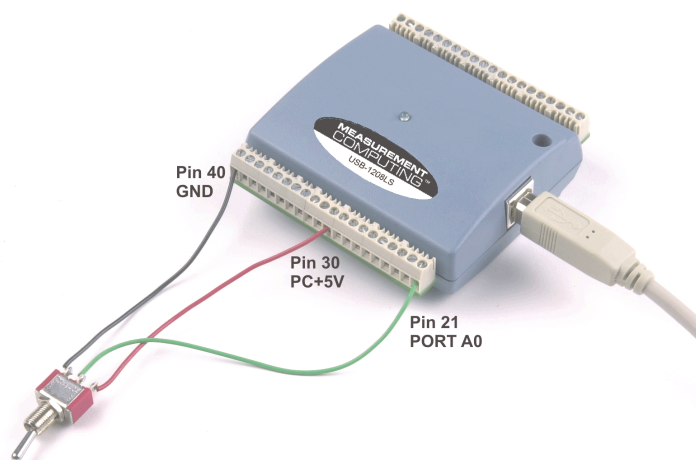
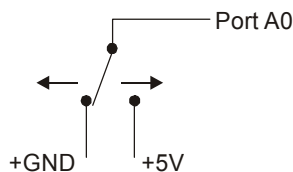

Figure 3-8. Digital connection Port A0 detecting the state of a switch
Figure 3-9. Schematic showing switch detection by digital channel Port A0
When you configure the digital bits for input, you can use the digital I/O terminals to detect the state of any TTL level input. Refer to the switch shown in Figure 3-8 and the schematic shown in Figure 3-9. If the switch is set to the $+5\text{ V}$ input, Port A0 reads *TRUE* (1). If you move the switch to GND, Port A0 reads *FALSE*.